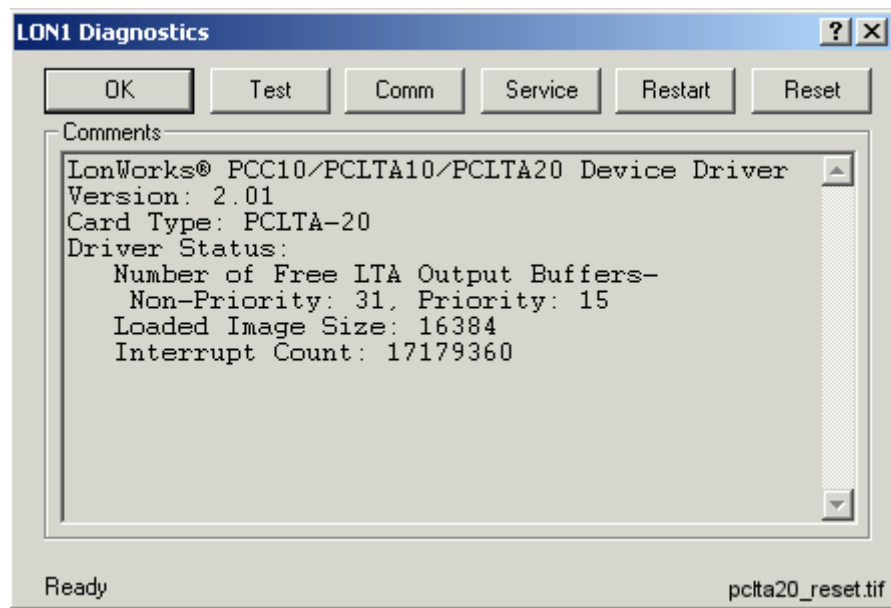

Fig. 4.6.4.2.-4 Some basic diagnostics information available indicating that the device driver has been started and can be configured
15. On the LonWorks® Plug'n Play control panel Figure 4.6.4.2.-2 above), click the Diagnostics... button to open the Diagnostics dialog shown below.